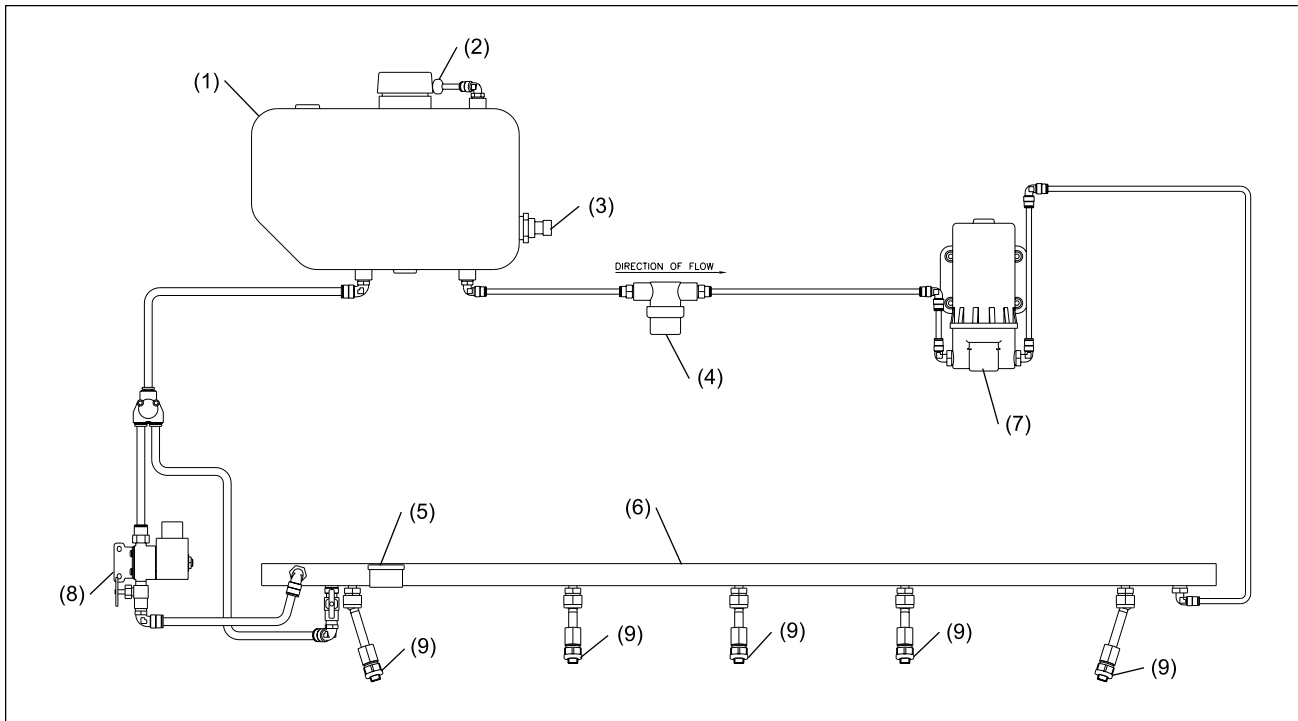

Figure 2-4. Cleaner Spray System
2. The **cleaner spray nozzles** apply a continuous spray of cleaning fluid to the lane. Refer to Figure 2-4.